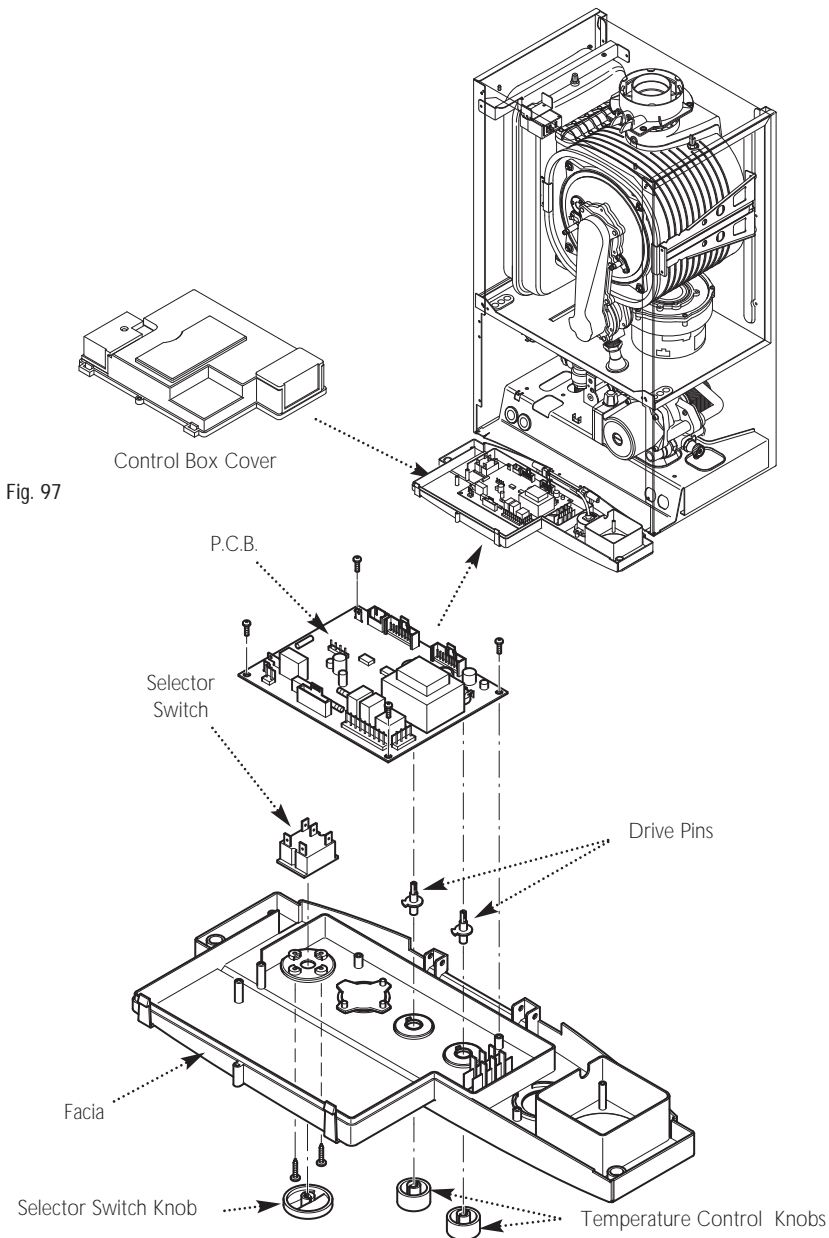

Fig. 98
14.22 P.C.B. (Fig. 98)
14.23 Selector Switch (Fig. 98)